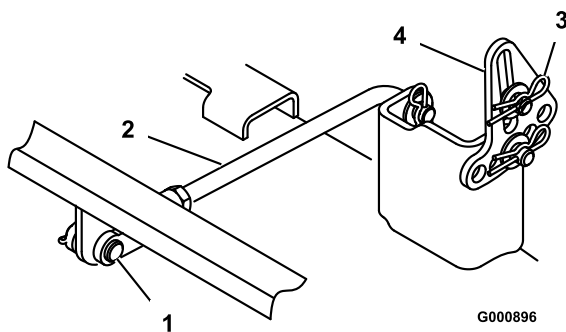

Figure 51
- Remove the hairpin cotter and clevis pin from the rear trunion rod (Figure 51) on each side of the mower.
- Remove the hairpin cotter and washer at the mower leveling brackets (Figure 51) on each side of the mower. Note which hole the leveling bracket is mounted in for future installation. Slide the brackets off of the mounting pin.
6. Attach the rear trunion rod to the tractor with the clevis pin and hairpin cotter (Figure 51) on each side of the mower.
7. Slide the leveling brackets onto the mounting pins and secure them with the washers and hairpin cotters (Figure 51).